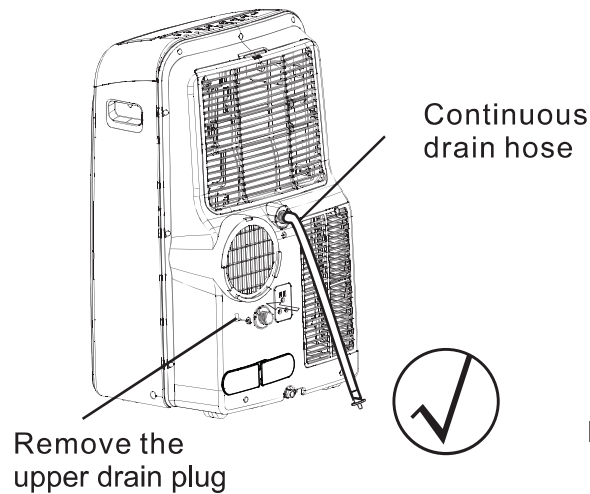

Figure 22
1. Remove the rubber plug at the back of the unit and attach a hose to drain outlet. Place the open end of the hose directly over the drain area in your basement floor (See Figures 22 and 23a/b).